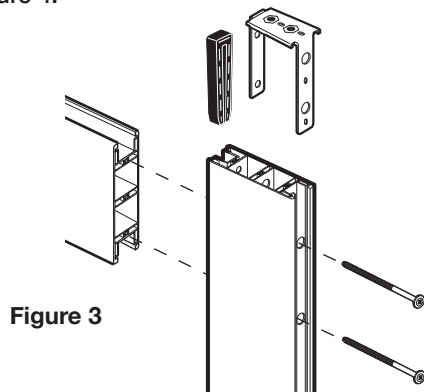

Figure 3
Place 2 of the 4" screws (Z) into the 2 holes in the outside of the Stile channel. Make sure they are fully inserted. Slide a reinforcement clip (D) into the channel and over the screw shafts. See Figure 3.